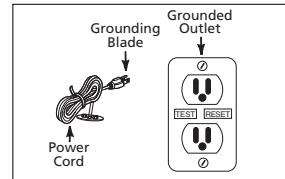

Figure 3
9. Insert the float switch cord plug directly into a 120 volt outlet (See Figure 3).